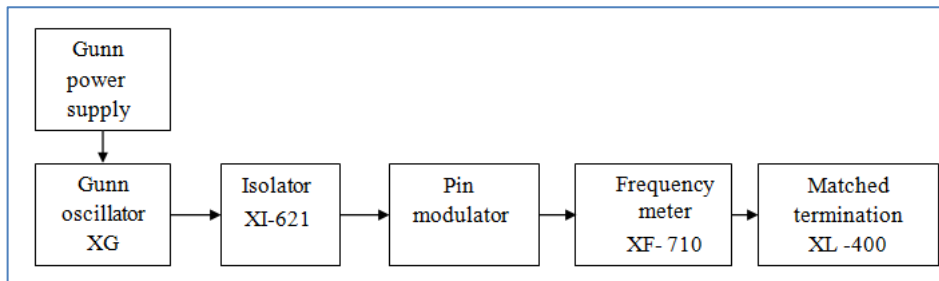

Figure 3.1: Block diagram of Gunn diode
- Plot V- I characteristics of Gunn Oscillator as shown in the figure 3.1 and determine the voltage range over which the Gunn diode exhibits negative resistance